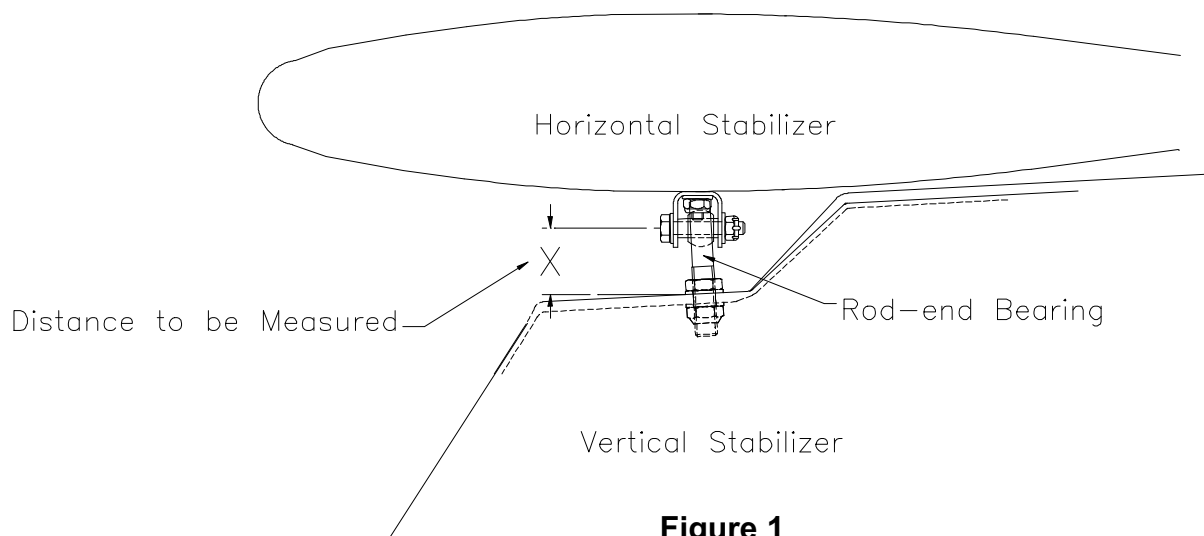

Figure 1
- 10.4. Measure the distance X as shown in figure 1. Record the result, this measurement is used during assembly to ensure that the horizontal stabilizer is installed at the correct angle of incidence.